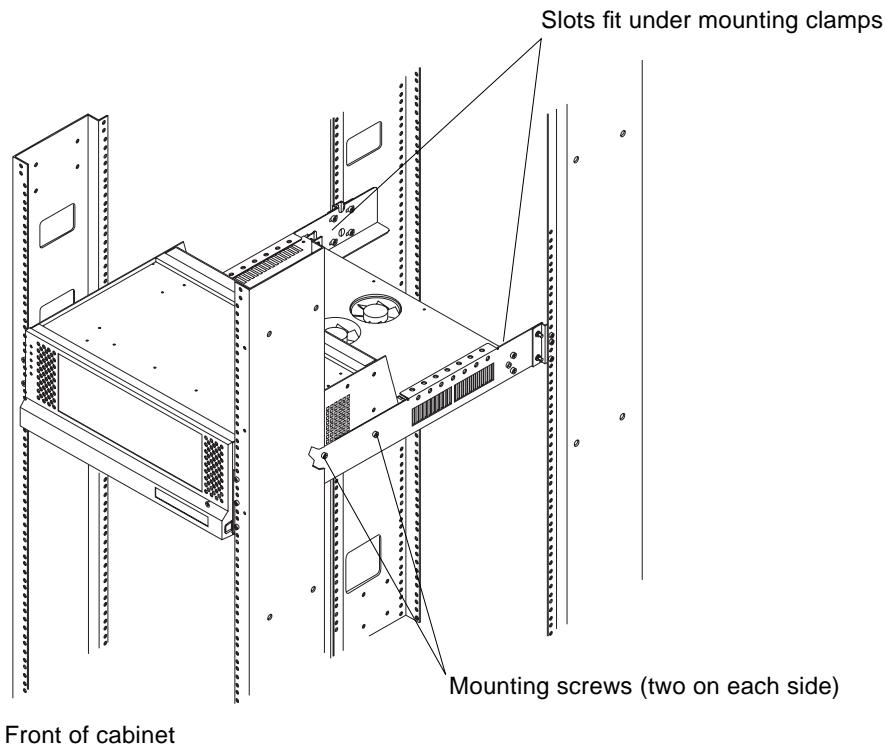

FIGURE 1-15 Installing the Controller Module Chassis
1. **Facing the front of the cabinet, set the controller chassis on the support rail and slide it into the cabinet (FIGURE 1-15).**
2. **Install two #10 screws in each side of the support rail and chassis (FIGURE 1-15).**